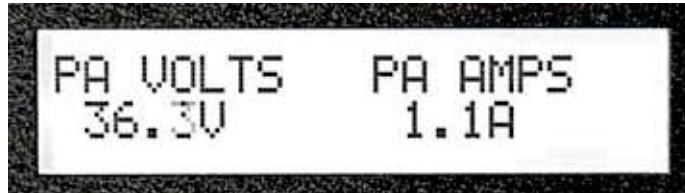

Figure 3-11. Press the FUNCTION Key to read VOLTS & AMPS
- Pressing the FUNCTION key again will display the power output (volts multiplied by amps; see Figure 3-11).